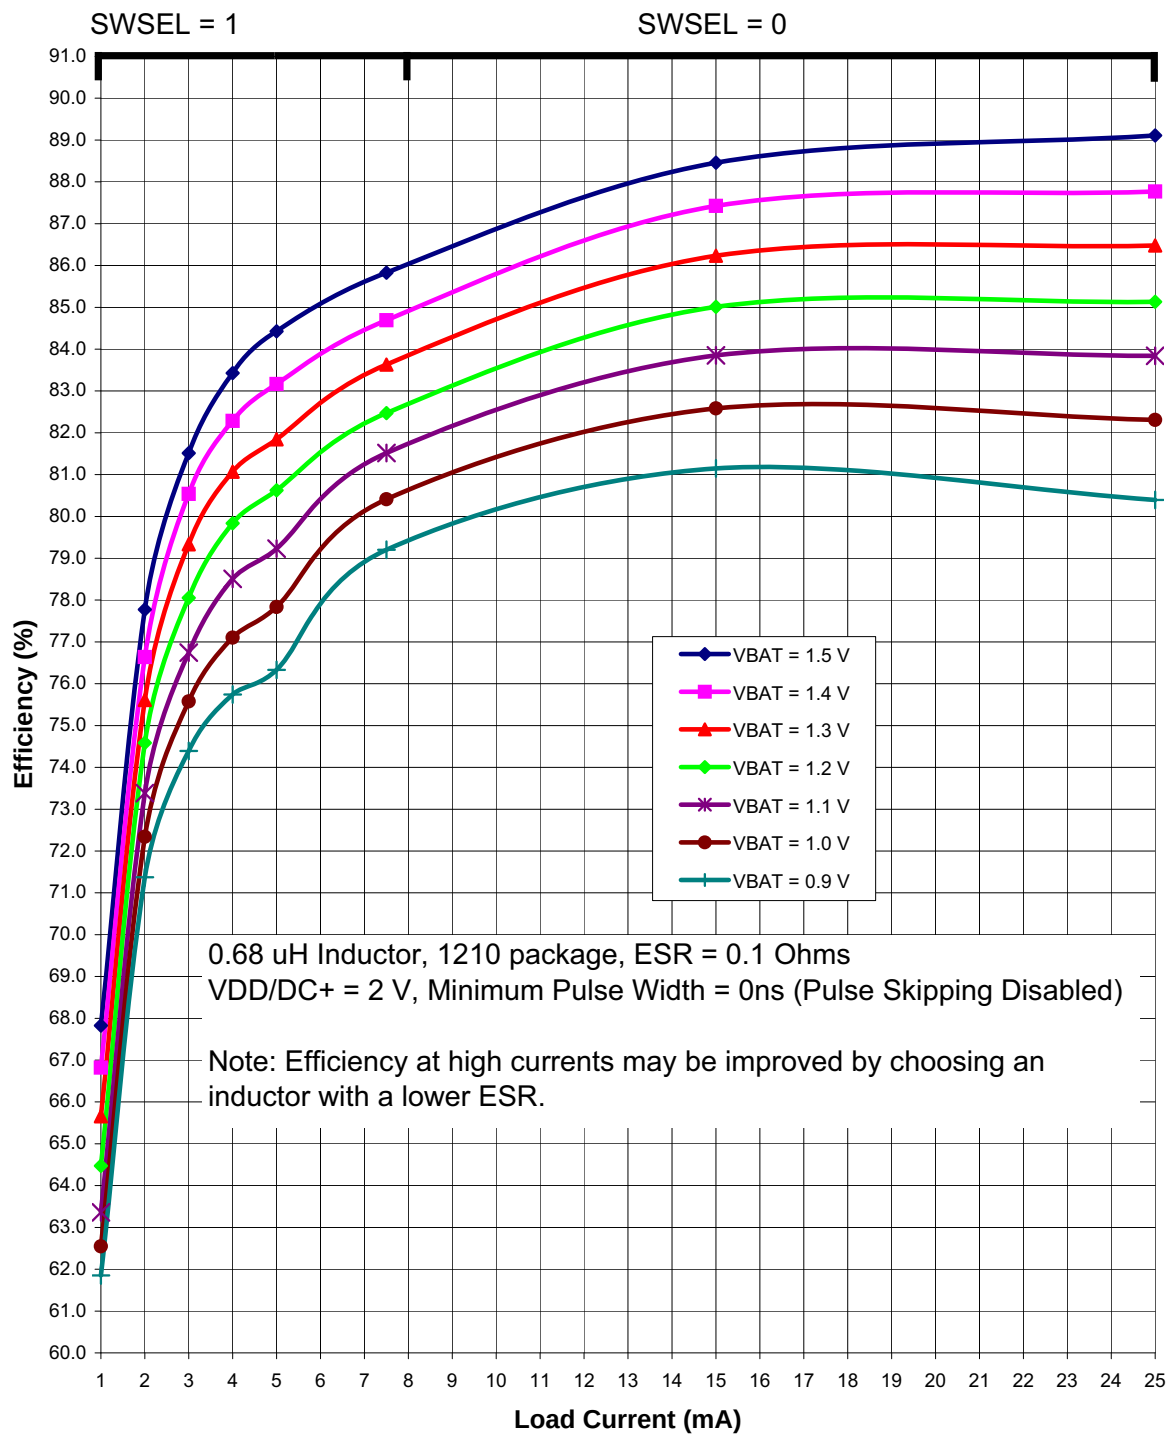
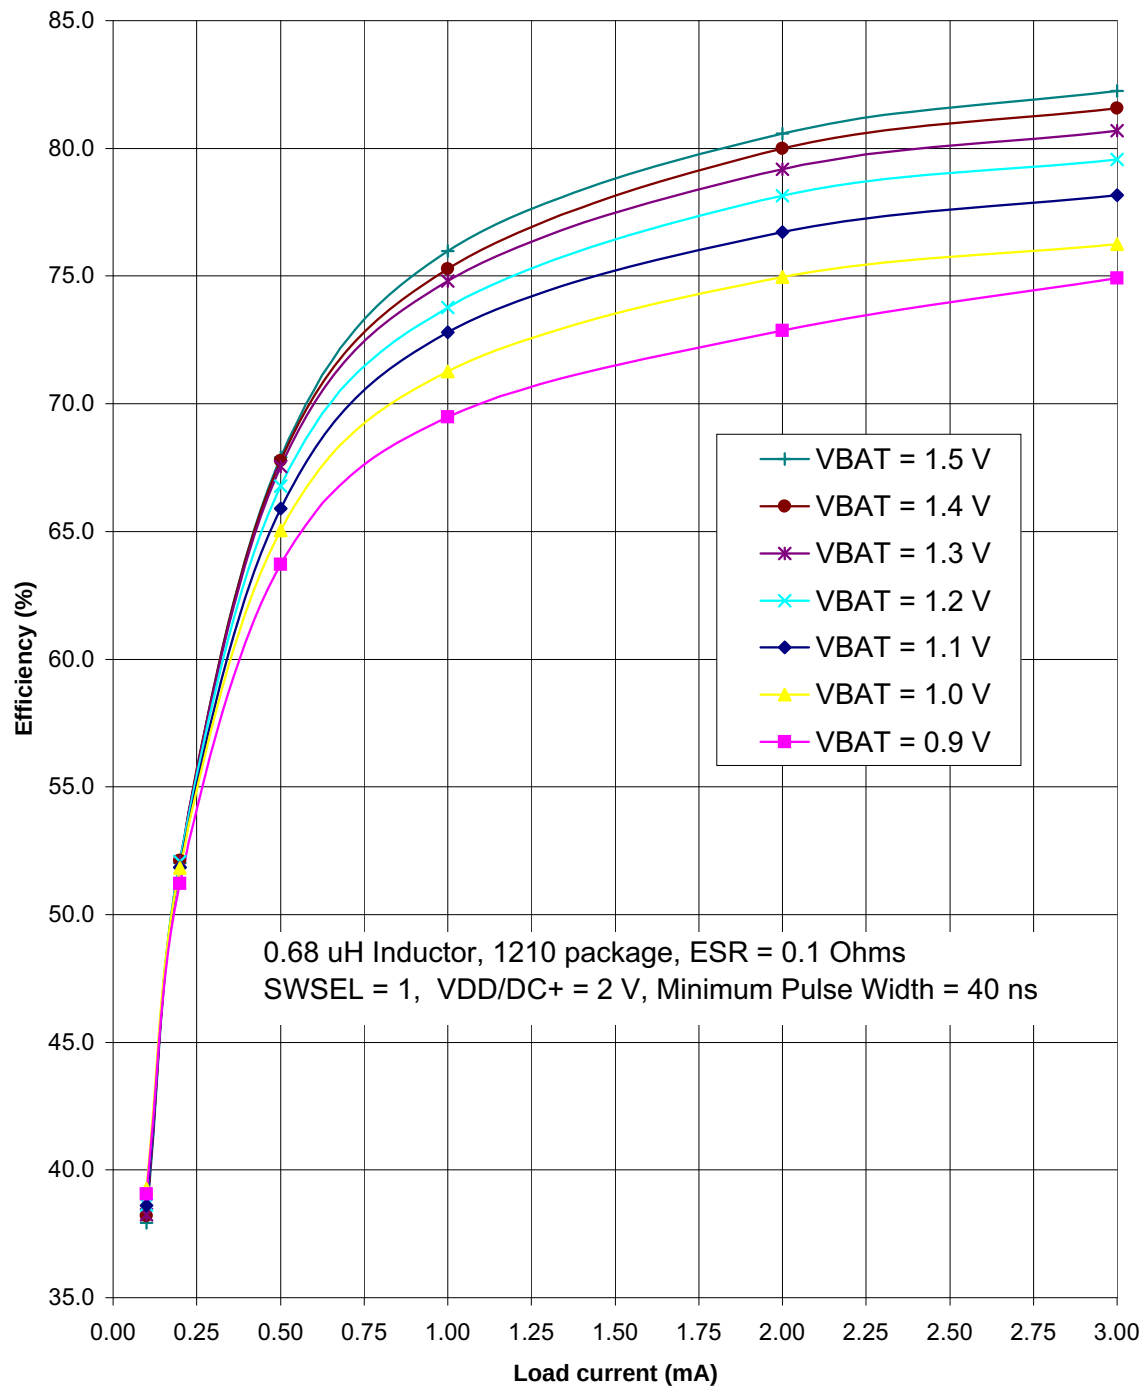

Figure 4.3. Typical DC-DC Converter Efficiency (High Current, VDD/DC+ = 2 V)
Figure 4.5. Typical DC-DC Converter Efficiency (Low Current, VDD/DC+ = 2 V)
The DC-DC Converter Efficiency can be estimated using Figure 4.3–Figure 4.5.
Notes: - Based on device characterization data; Not production tested. - SYSCLK must be at least 32 kHz to enable debugging. - Digital Supply Current depends upon the particular code being executed. The values in this table are obtained with the CPU executing an "sjmp \$" loop, which is the compiled form of a while(1) loop in C. One iteration requires 3 CPU clock cycles, and the Flash memory is read on each cycle. The supply current will vary slightly based on the physical location of the sjmp instruction and the number of Flash address lines that toggle as a result. In the worst case, current can increase by up to 30% if the sjmp loop straddles a 64-byte Flash address boundary (e.g., 0x007F to 0x0080). Real-world code with larger loops and longer linear sequences will have few transitions across the 64-byte address boundaries. - Includes oscillator and regulator supply current. - ID_{DD} can be estimated for frequencies ≤14 MHz by simply multiplying the frequency of interest by the frequency sensitivity number for that range, then adding an offset of 90 μA. When using these numbers to estimate I_{DD} for >14 MHz, the estimate should be the current at 25 MHz minus the difference in current indicated by the frequency sensitivity number. For example: V_{DD} = 3.0 V; F = 20 MHz, I_{DD} = 4 mA – (25 MHz – 20 MHz) × 0.102 mA/MHz = 3.5 mA assuming the same oscillator setting. - The supply current specifications in Table 4.2 are for two cell mode. The VBAT current in one-cell mode can be estimated using the following equation: $\text{VBAT Current (one-cell mode)} = \frac{\text{Supply Voltage} \times \text{Supply Current (two-cell mode)}}{\text{DC-DC Converter Efficiency} \times \text{VBAT Voltage}}$ The VBAT Voltage is the voltage at the VBAT pin, typically 0.9 to 1.8 V. The Supply Current (two-cell mode) is the data sheet specification for supply current. The Supply Voltage is the voltage at the VDD/DC+ pin, typically 1.8 to 3.3 V (default = 1.9 V). The DC-DC Converter Efficiency can be estimated using Figure 4.3–Figure 4.5. - Idle ID_{DD} can be estimated by taking the current at 25 MHz minus the difference in current indicated by the frequency sensitivity number. For example: V_{DD} = 3.0 V; F = 5 MHz, Idle I_{DD} = 2.1 mA – (25 MHz – 5 MHz) × 0.079 mA/MHz = 0.52 mA. - Internal LFO only available on 'F912 and 'F902 devices. - Ability to disable VBAT supply monitor only available on 'F912 and 'F902 devices.